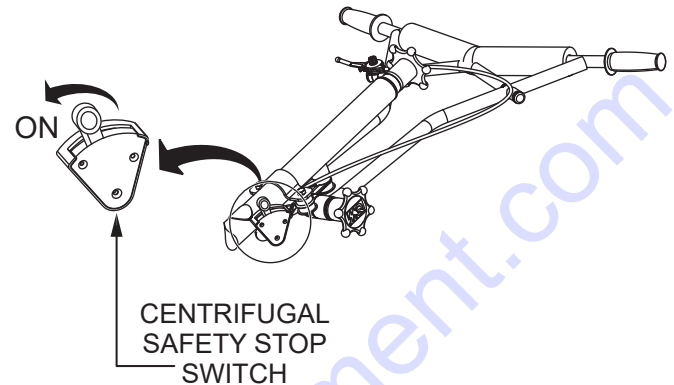

Figure 29. Centrifugal Safety Stop Switch (ON)
3. Place the centrifugal safety stop switch in the **ON** position (Figure 29).